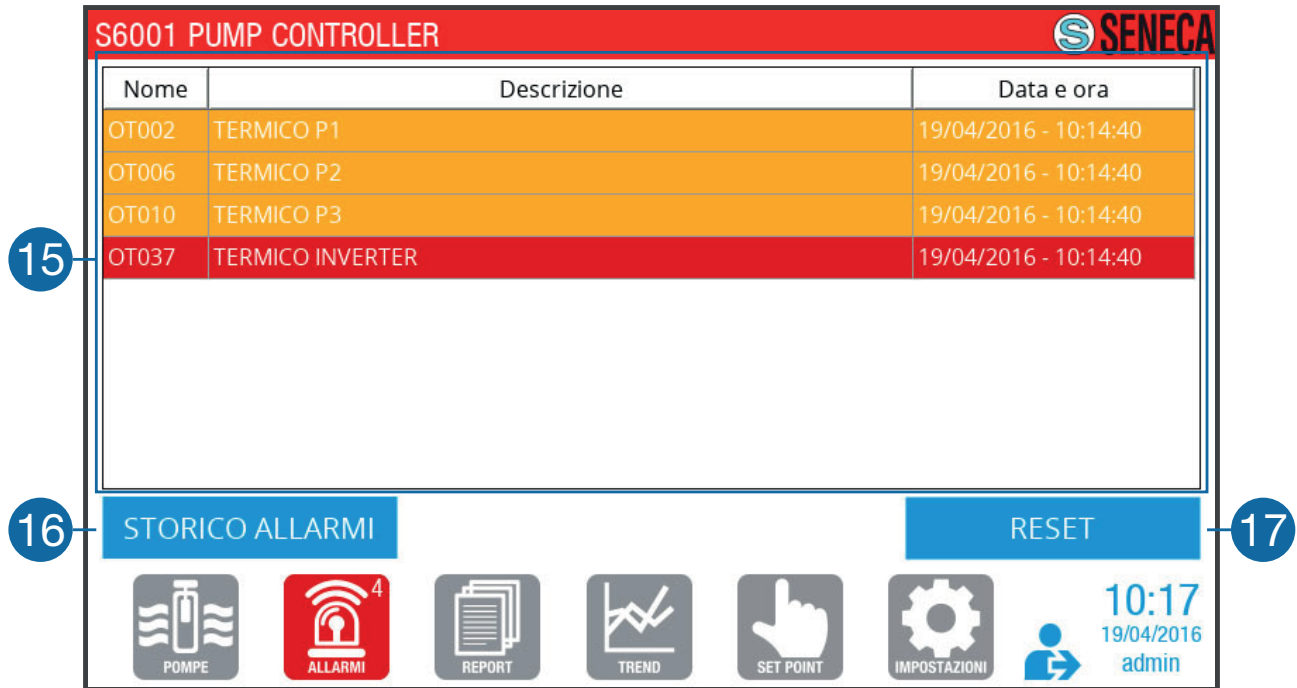

Fig. 52 “Alarms” page
- “Alarms” (Fig. 52 on page 65);
Key to access the “Alarms” page (Fig. 52 on page 65).
The “Alarms” page (Fig. 52 on page 65) allows managing alarms.
22	Key to return to the “Alarms” page (Fig. 52 on page 65).